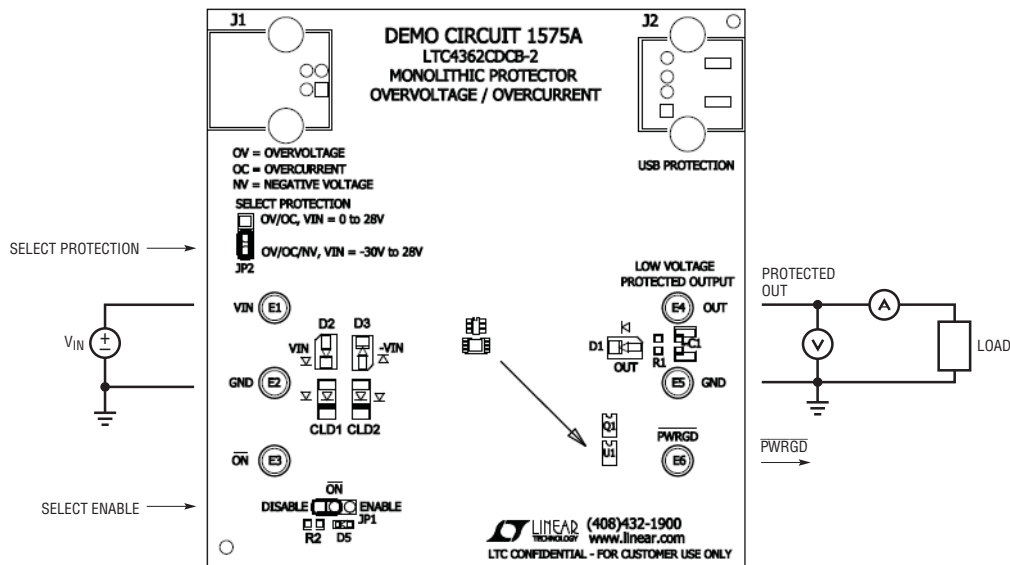

Figure 1. DC1575A Basic Setup
Demonstration circuit 1575A is easy to set up to evaluate the performance of the LTC4362. Refer to Figures 1 and 2 for proper measurement equipment setup and follow the procedure below:
- 1) Connect the load and measurement across the OUT and GND (Figure 1).